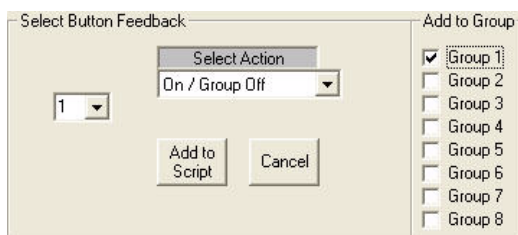

FIG. 51 Button Feedback - Button 1, On / Group Off, Group 1
The *On / Group Off* Button Feedback option allows you to assign feedback to a Group, so that only one of the group may be illuminated at a time (FIG. 51).
- From the *Select Action* drop-down menu, select **On/ Group Off**, and click **Group1** under Add To Group (as shown in FIG. 51). Repeat for Buttons 2 to 4.